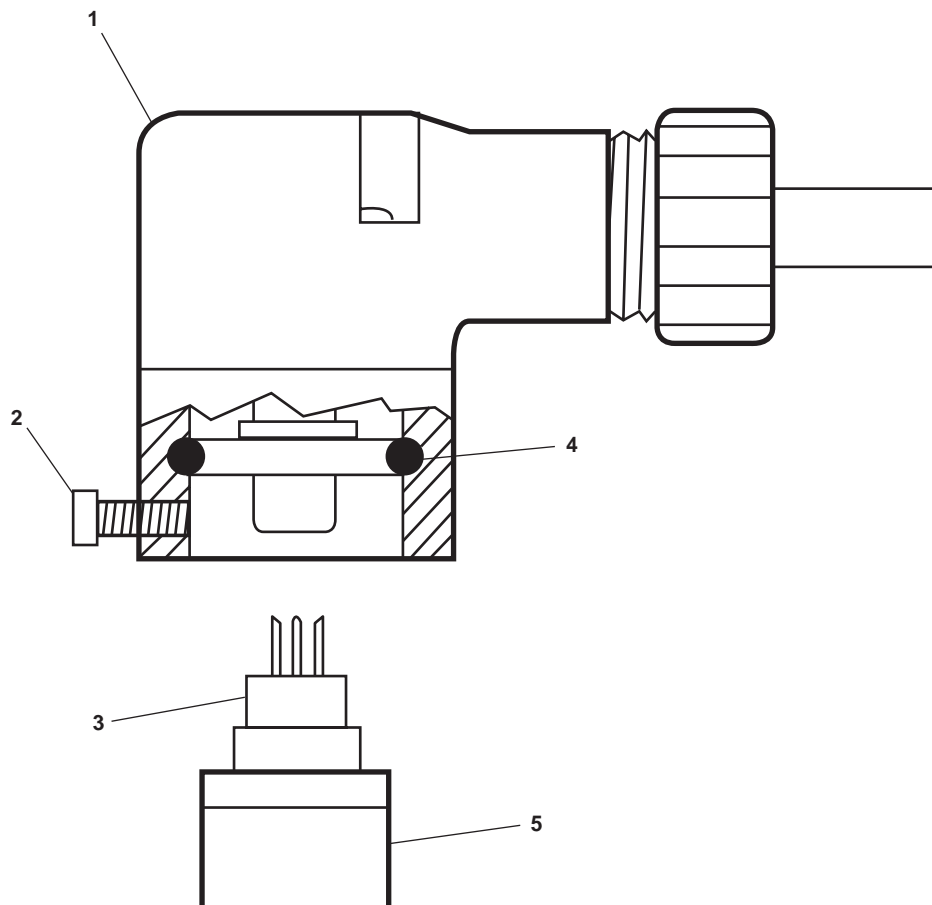

Figure 3. Cable Assembly Adapter and TLI Transmitter Connector (Typical)
11. Locate the cable assembly adapter (figure 3, item 1). Remove the setscrew (figure 3, item 2) that locks the cable assembly adapter to the TLI transmitter connector (figure 3, item 3).
12. Carefully remove the cable assembly adapter (figure 3, item 1) from the TLI transmitter.
13. Cover the exposed connections of the TLI transmitter (figure 3, item 3) with a clean wiping rag. Secure the clean wiping rag to the transmitter with fibrous twine to prevent damage and/or contamination.
7. Remove the clean wiping rag and fibrous twine covering the connections (figure 3, item 3) of the TLI transmitter.
8. Ensure that the O-ring (figure 3, item 4) is in place in the cable adapter (figure 3, item 1), then lubricate the O-ring with a small amount of silicone compound.
9. Line up and press the adapter (figure 3, item 1) over the transmitter connector (figure 3, item 3) stem until it completely covers the black line unit on the TLI transmitter stem (figure 3, item 5).
10. Holding the adapter in place, secure the adapter (figure 3, item 1) with the setscrew (figure 3, item 2) to the TLI transmitter connector stem (figure 3, item 5).